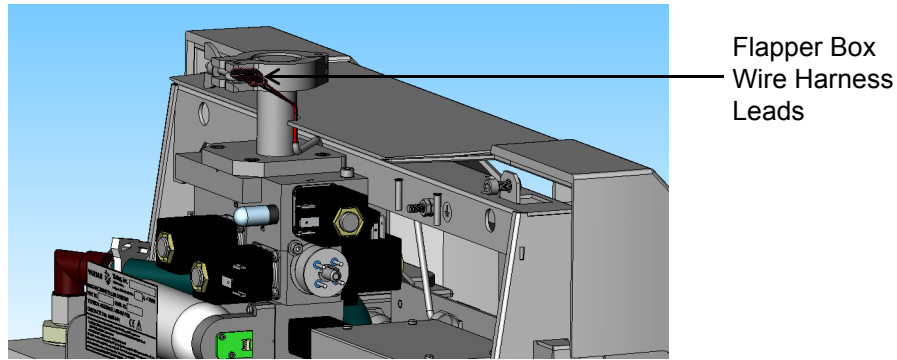

Figure 9: Front Cover Assembly
19. Carefully locate the Flapper Box Wire Harness leads between the front cover and the test port ("Figure 9: Front Cover Assembly").